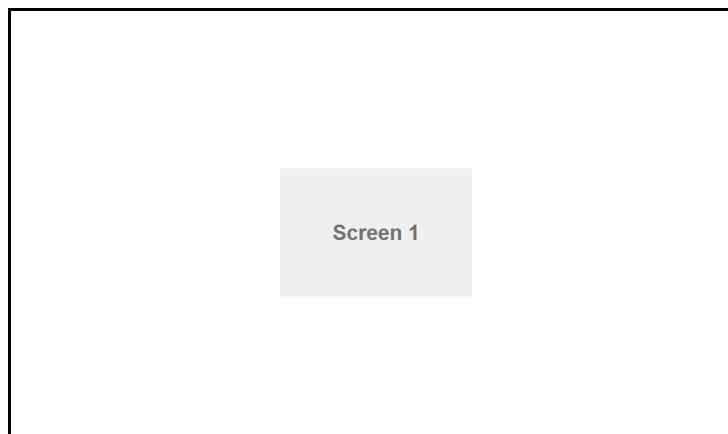

Fig. D-15: Target Screen Identifying Flash-Message
* Upon selecting either **Screen 1** or **Screen 2**, a helpful screen-identifying flash-message is overlaid on the corresponding screen for a second, 'Screen 1' or 'Screen 2'. See Figure D-15.